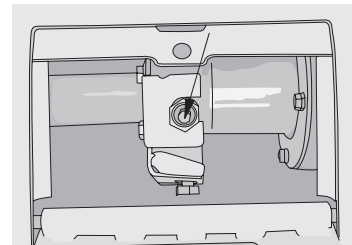
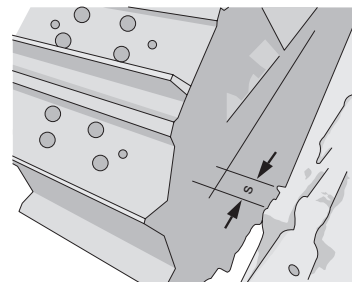

Figure 4-44
Figure 4-45
- In order to increase tension, pump in grease through the grease fitting with a grease pump (Figure 4-44). On the other hand, in order to loosen tension, slowly rotate the plug in the opposite direction for one turn, to squeeze out the grease. If pump in the grease until S is 0mm (Figure 4-45), and the tension is still loose, this shows that the bushing is seriously worn and thinned. Contact your local Shantui distributor to repair or replace the track.